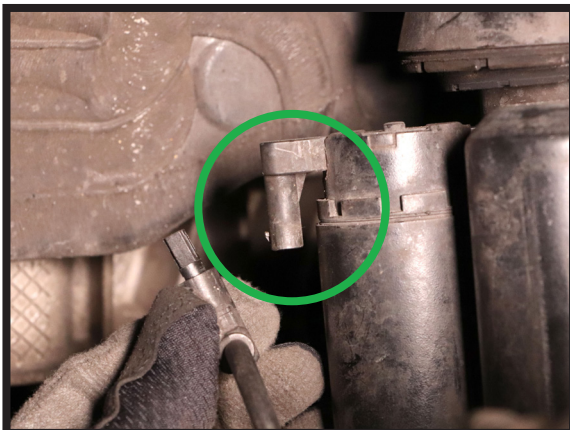

FIGURE 26
7. CONNECT THE TWO (2) ELECTRICAL CONNECTORS TO THE NEW STRUT SOLENOID. (FIGURES 26, 27)